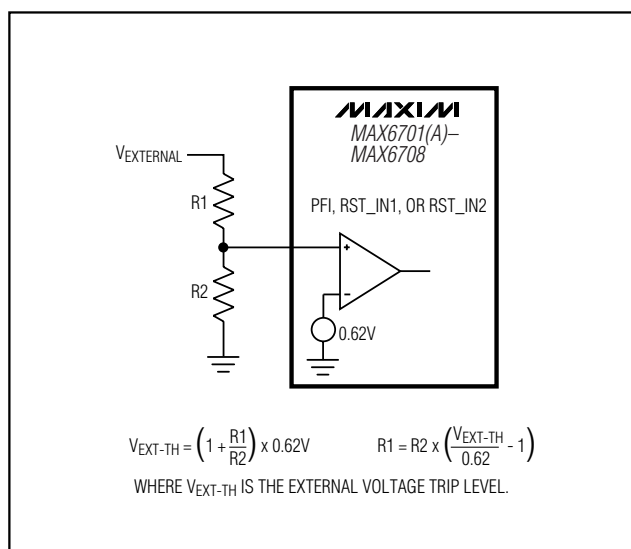

Figure 8. Calculating Adjustable Voltage Thresholds
The MAX6701(A)/MAX6702(A)/MAX6703(A) include two adjustable reset inputs for monitoring up to a total of three system voltages (including V_{CC}). The thresholds for the monitored RST_IN supplies are externally set with resistor-divider networks (Figure 8). The reset output is asserted if any of the monitored supplies (V_{CC} , RST_IN1, or RST_IN2) go below its specified threshold and remains asserted for the reset timeout period after all supplies are above their thresholds.